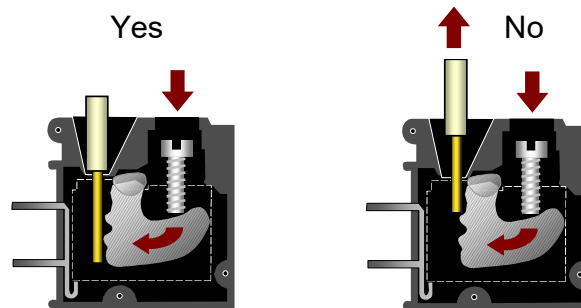
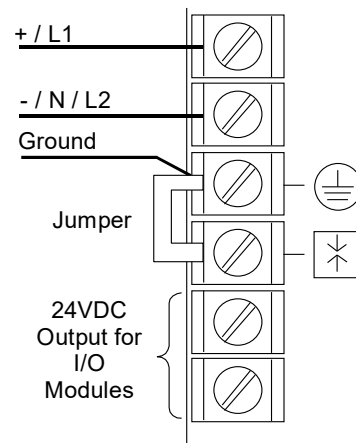

Figure 49: Correct Wiring Practice for Power Supply Input Terminals
Figure 51: IC694 Power Supply Terminals
- For IC695 Power Supplies, each terminal accepts one AWG #14 to AWG #22 wire. Figure 49 (below) is a cross-section of one of the terminals on an IC695 Power Supply. The end of each wire should be stripped at least 3/8-inch (9mm). The terminal can accept a wire that is stripped up to 11 mm (.433 in) while providing full seating of the insulator. The wire must be fully-inserted into the terminal block as illustrated in Figure 49 at left, so that the insulation meets the insulation stop position inside the terminal. Tightening the terminal screw pivots the clamp firmly against the stripped end of the wire, holding it in place. If the wire is not fully inserted, as shown on the right, tightening the clamp may push the wire upward, so that it is not connected.
1. The input power terminals should be wired as shown in Figure 49 through Figure 51 above.